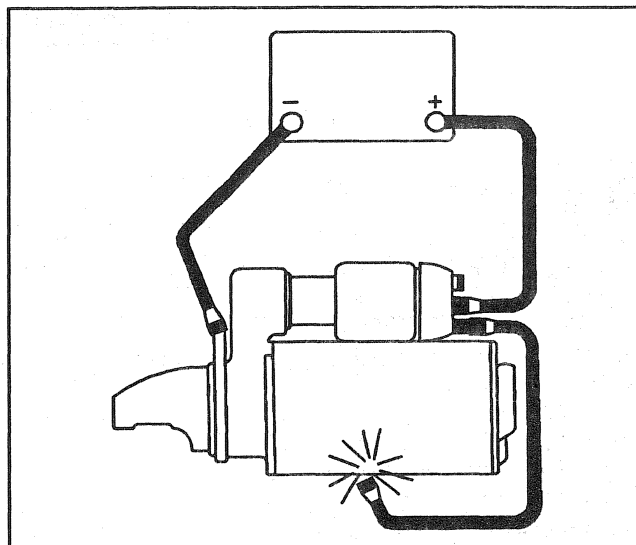

Figure 11—Pinion Clearance Check
To check pinion clearance, perform the following steps (Figures 11 and 12).
3. **Momentarily** flash a jumper lead from the solenoid motor terminal to the solenoid frame. This will shift the pinion into cranking position and it will remain so until the battery is disconnected (Figure 11).